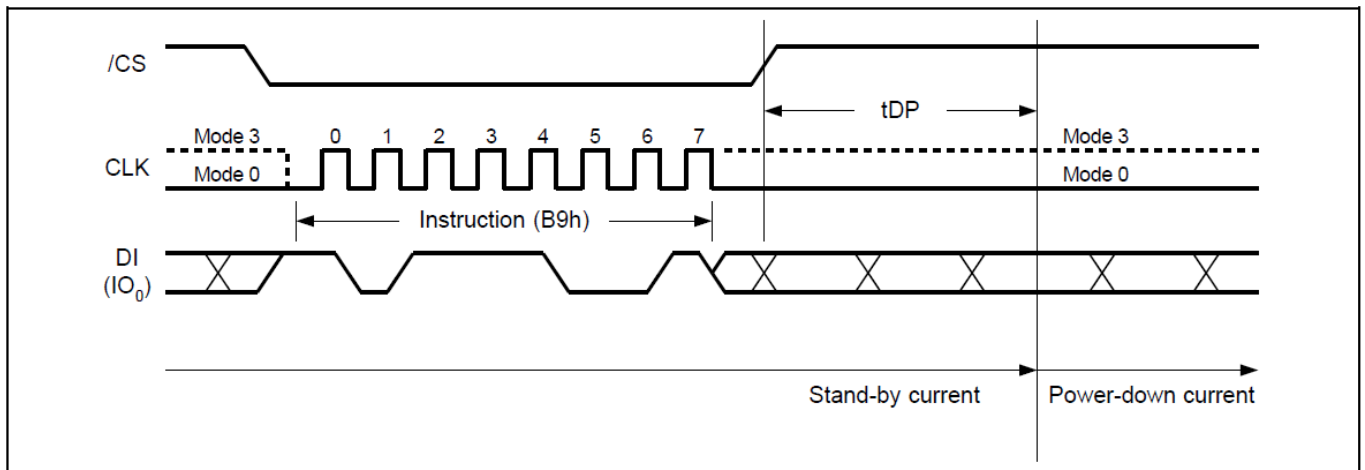

Figure14. Deep Power-Down Sequence Diagram
The Deep Power-Down Mode automatically stops at Power-Down, and the device always in the Standby Mode after Power-Up. The Deep Power-Down command sequence: CS# goes low → sending Deep Power-Down command → CS# goes high. The command sequence is shown in Figure14. CS# must be driven high after the eighth bit of the command code has been latched in; otherwise the Deep Power-Down (DP) command is not executed. As soon as CS# is driven high, it requires a delay of t_{DP} before the supply current is reduced to ICC2 and the Deep Power-Down Mode is entered. Any Deep Power-Down (DP) command, while an Erase, Program or Write cycle is in progress, is rejected without having any effects on the cycle that is in progress.